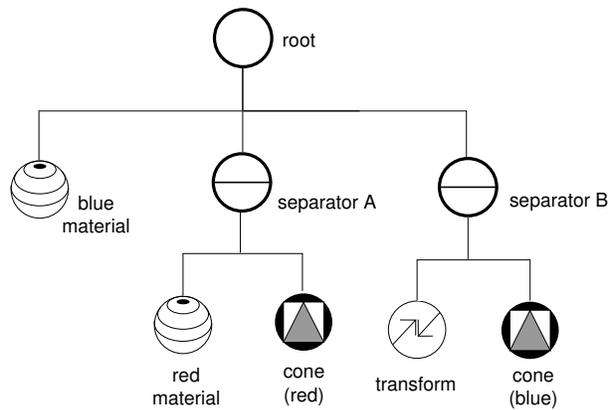

Figure 1-4 Example of separator groups
- Figure 1-4** Example of separator groups 5
A group node contains an ordered list of children that are traversed from left to right. A *separator* group, shown in Figure 1-4, is a special type of group node. Nodes under the separator group do not affect nodes in the graph after the separator.
When you write a scene database, the objects in the database are written from top to bottom and from left to right. Objects lower (and to the right) in the scene graph *inherit* the attributes and values set by objects that precede them. If you do not want subsequent objects to inherit certain properties or values, use a *separator* group, which pushes and pops properties during traversal (see Figure 1-4; the red material in the separator A group does not affect the cone in the separator B group). The root node of a scene graph is usually a separator.